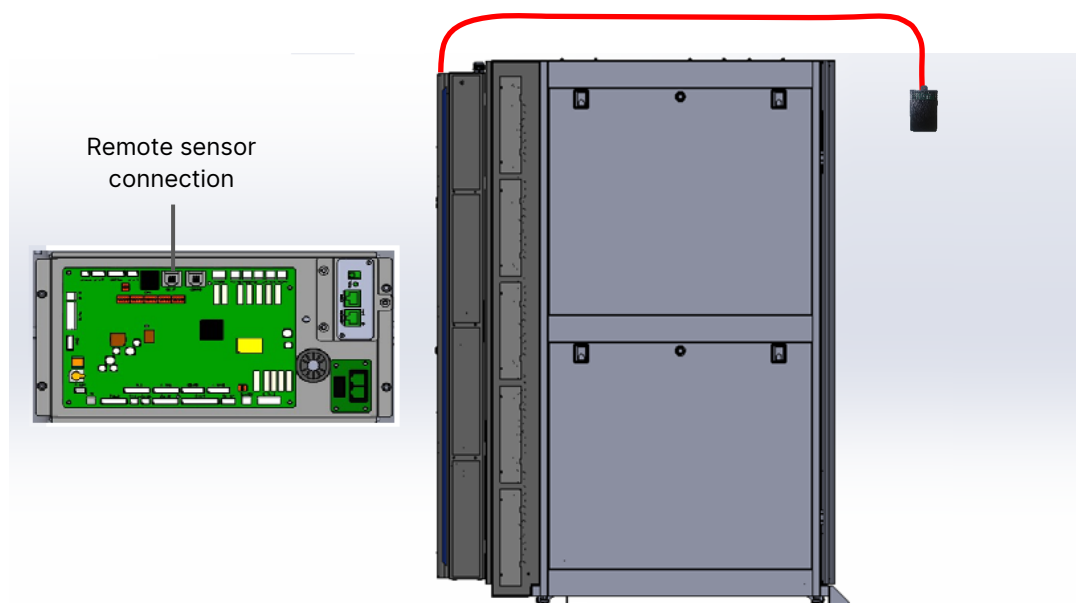

Figure 3-15: Remote Sensor Configuration
- The sensor wiring terminal is RJ-11, which is connected to the sensor through the connection point of the control board (as shown in *Figure 3-15*), and the connection line can be pulled out by the door knocker on the top. When the remote sensor is fixed in the cold aisle at the entrance of the server rack, it is recommended that you use M4 screws to fix it.